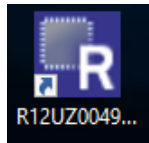

Figure 3. Desktop Icon
3. Click the Renesas DAQ shortcut (created in “Installing the Software and USB Drivers”) on the desktop. Figure 3 shows the desktop icon. The green LED on the DAQ on a Stick board turns on.